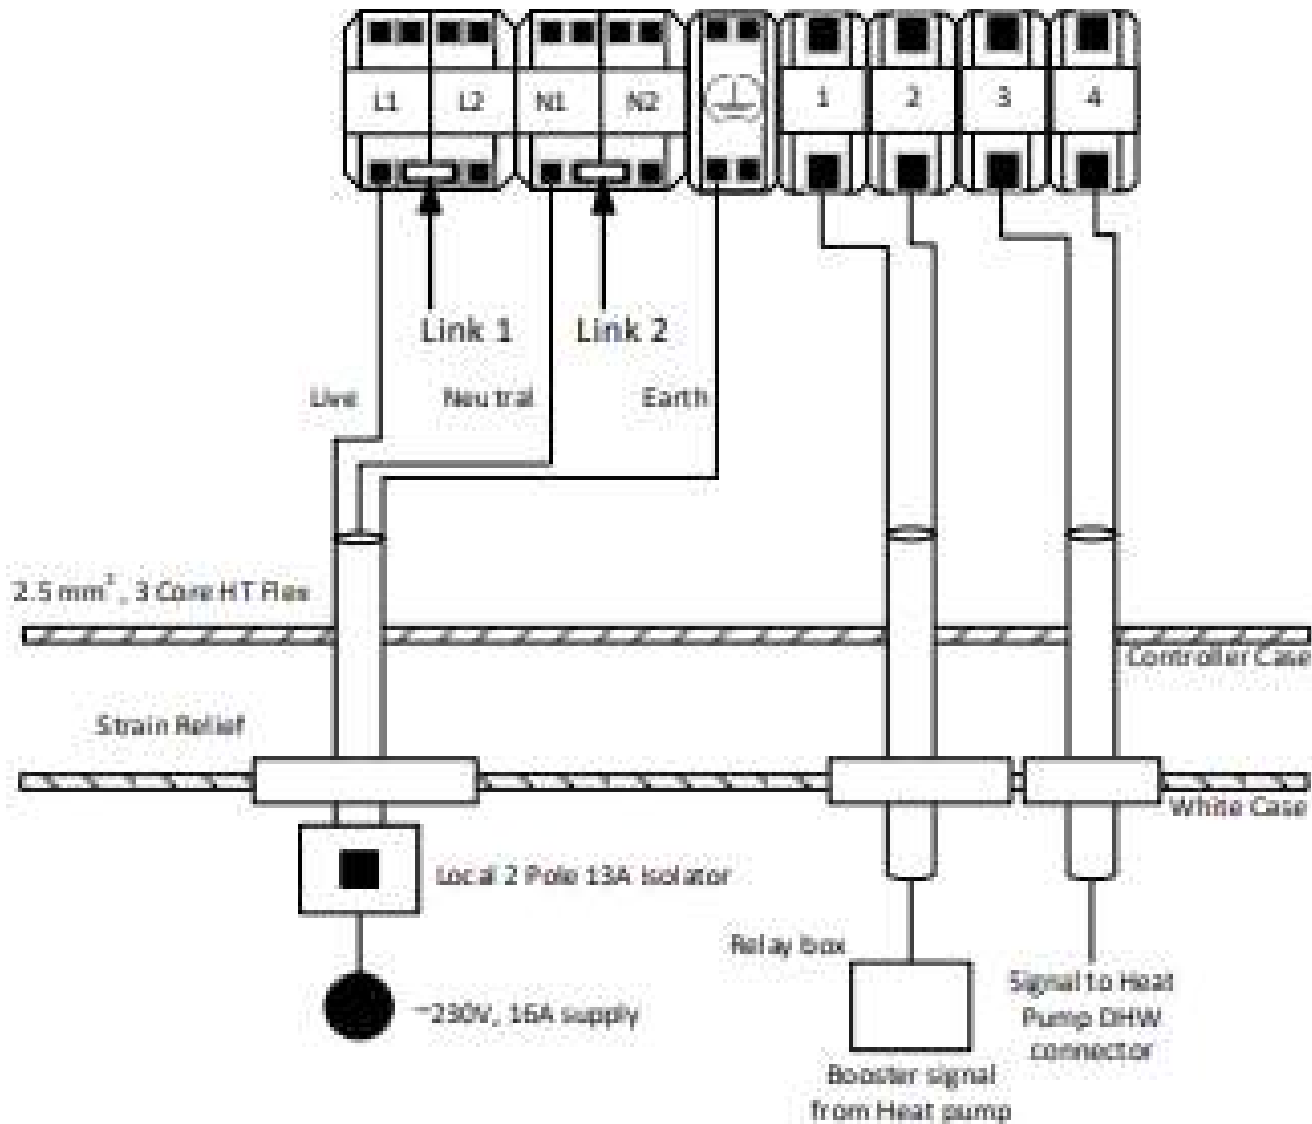

Figure 13.2: Wiring Option 2 – HW +iLTHP Daikin Low Temperature Heat Pump
- Using the cable assembly provided (C2293), plug the connector end in the Daikin Indoor unit “*EHBH04/8D6V*” controller PCB plug terminal X13A (please refer to Heat pump manual). Then run the cable out of the Daikin indoor unit and into the relay box (C2291) provided into “TRIGGER INPUT AC” terminals (please refer to relay box instruction sheet). Then wire the 2 core PVC insulated cable provided (C2295) from the relay box terminals “NO1” & “C1” to the heat battery, into the control box housing through the hole available. Secure the cables in Terminal T1 & T2 independently (Figure 13.2). Please note that the polarity of the wires is not important in this wiring setup. Please ensure to use the provided relay backbox (C2292) & 2 x Cable grommets (C2296) when running the wires into the relay box.
Using the cable assembly provided (C2294), place the connector end in the Daikin indoor unit controller “*EHBH04/8D6V*” PCB connector “X9A” (please refer to Heat Pump manual) , then run the wire into the appliance via the appliance case cabling grommets and then into the control box housing through the hole available. Secure the cables in Terminals T3 & T4 independently (Figure 13.2).